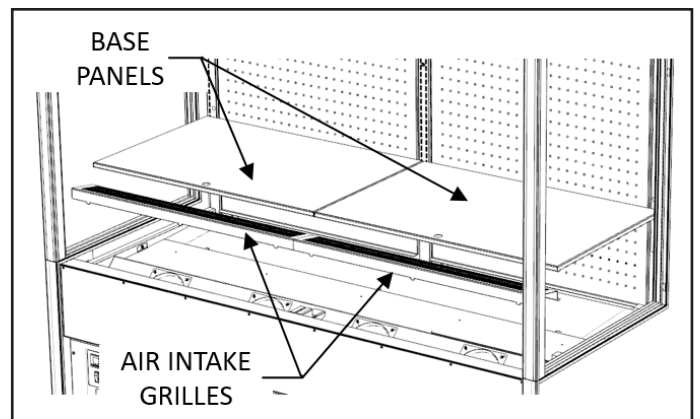

Figure 5 - Removing the cabinet base
- (b) Remove the Base panels - see **Figure 5**.